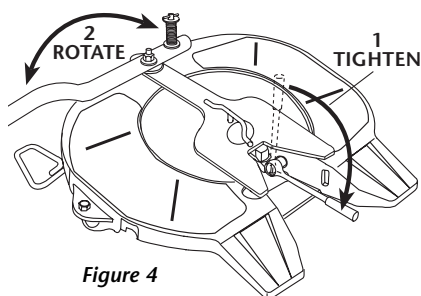

Figure 4
4. Using a 15/16" socket, tighten the locks by turning the lock adjustment bolt clockwise 1/4 turn at a time. Remove the socket wrench from the bolt and rotate the lock adjustment tool, as shown in *Figure 4*, to check for resistance between the lock and lock adjustment tool.